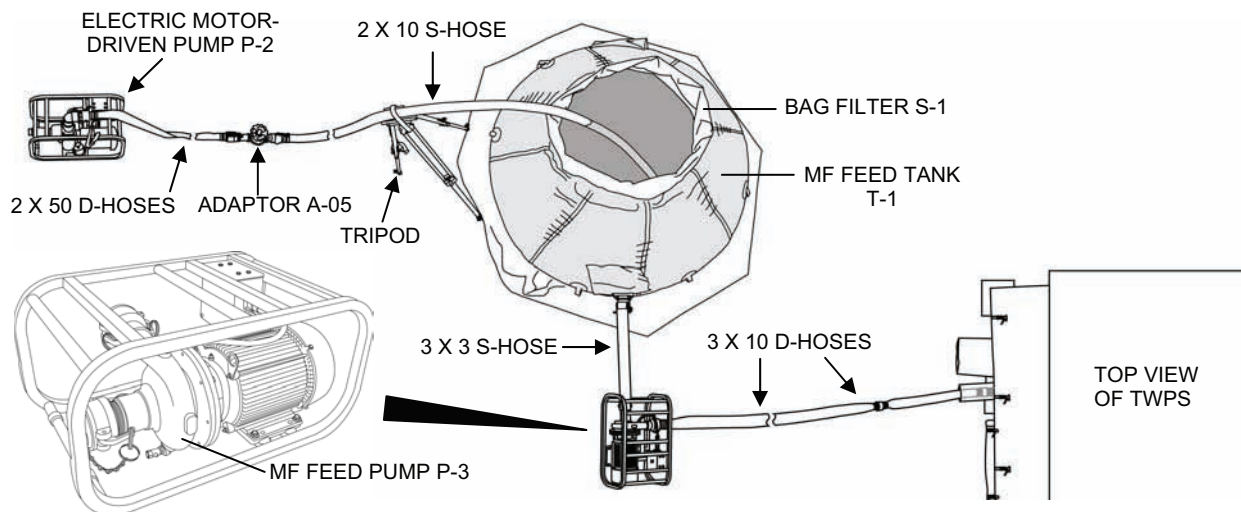

Figure 8. MF System: MF Feed Tank to TWPS Skid.
- **One 2-in., 10-ft. green-banded section of rigid suction hose.** Discharges raw water from Adaptor A-05 into the top of the MF feed tank (see Figure 8 for MF feed tank).
MF System: MF Feed Tank to TWPS Skid (see Figure 8)